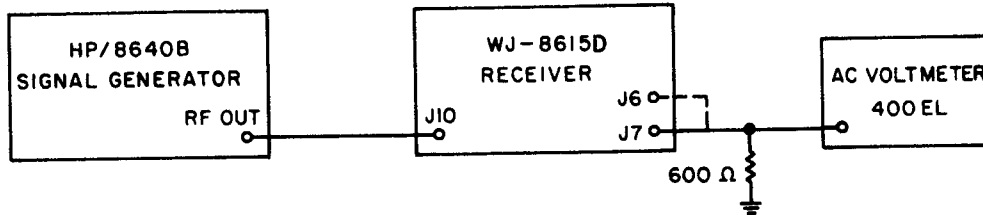

Figure 4-19. BFO Audio Alignment, Equipment Connections
- 12) Set the receiver to 100 MHz CW Detection mode, Manual gain control and the narrowest bandwidth. Reinstall the AM/FM Demodulator (A1A9) module into the receiver, connect the test equipment as illustrated in **Figure 4-19**.
- 7) Connect the test equipment as illustrated in **Figure 4-19**.